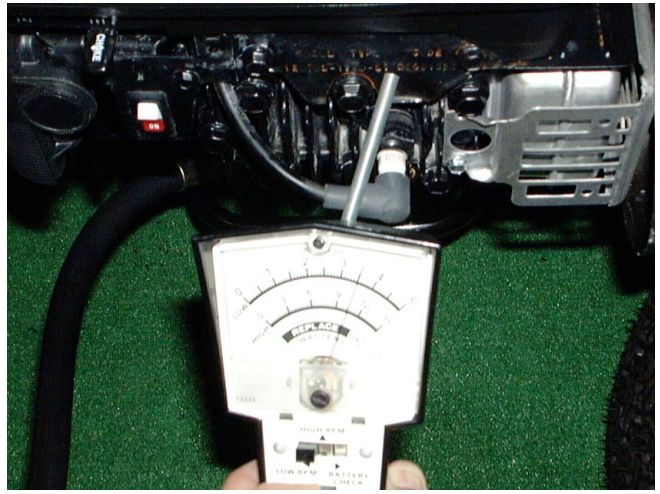

Figure 8
- Start the engine and verify that the engine is operating between 3500 and 3600 RPM using a tachometer. See Figure 8.